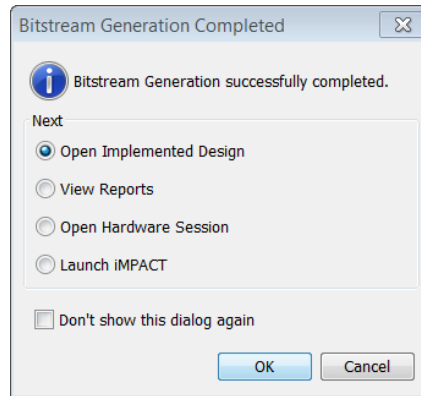

Figure 39: Bitstream Generation Completed
2. After the design implementation, click **Open Implemented Design**, (Figure 39).